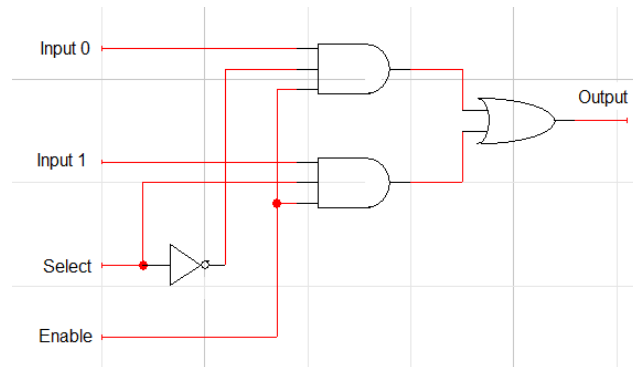

Figure 2: 2-to-1 line multiplexer with enable
3. Write Verilog HDL dataflow description of a 2-to-1 line multiplexer with enable given in Figure 2 on paper with your handwriting, and enter it in Xilinx ISE. Create a test bench file for it. All possible input combinations must be included in your test bench files. Inputs should be changed in every 10 ns. By using this test bench, simulate your design and verify it. **Add your codes and simulation outputs to your reports.**